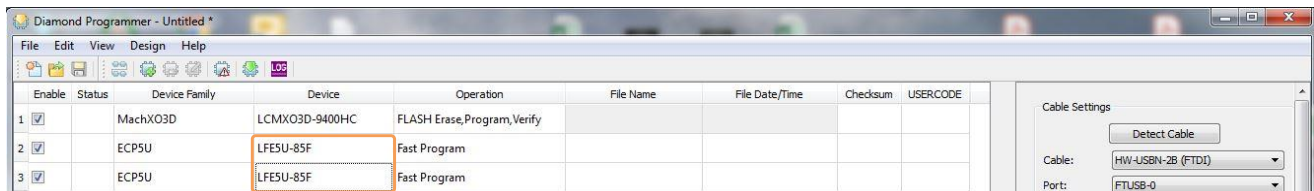

Figure 4.7. Device Selection
6. Click on the desired device, such as LFE5U-85F, from the **Device** column (Figure 4.7) to program.